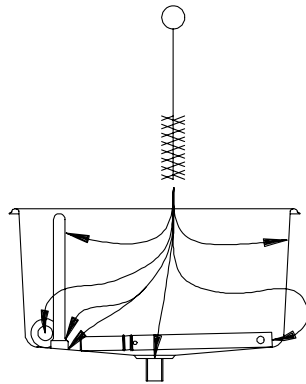

Figure 10-3 Sanitize Hopper
10. Pour sanitizing solution into the hopper pan. Using a clean brush, scrub the hopper walls, mix level sensor, the mix feed port from the hopper to the cylinder, the inside of the mix feed tube and the mix float as shown in figure 10-3.